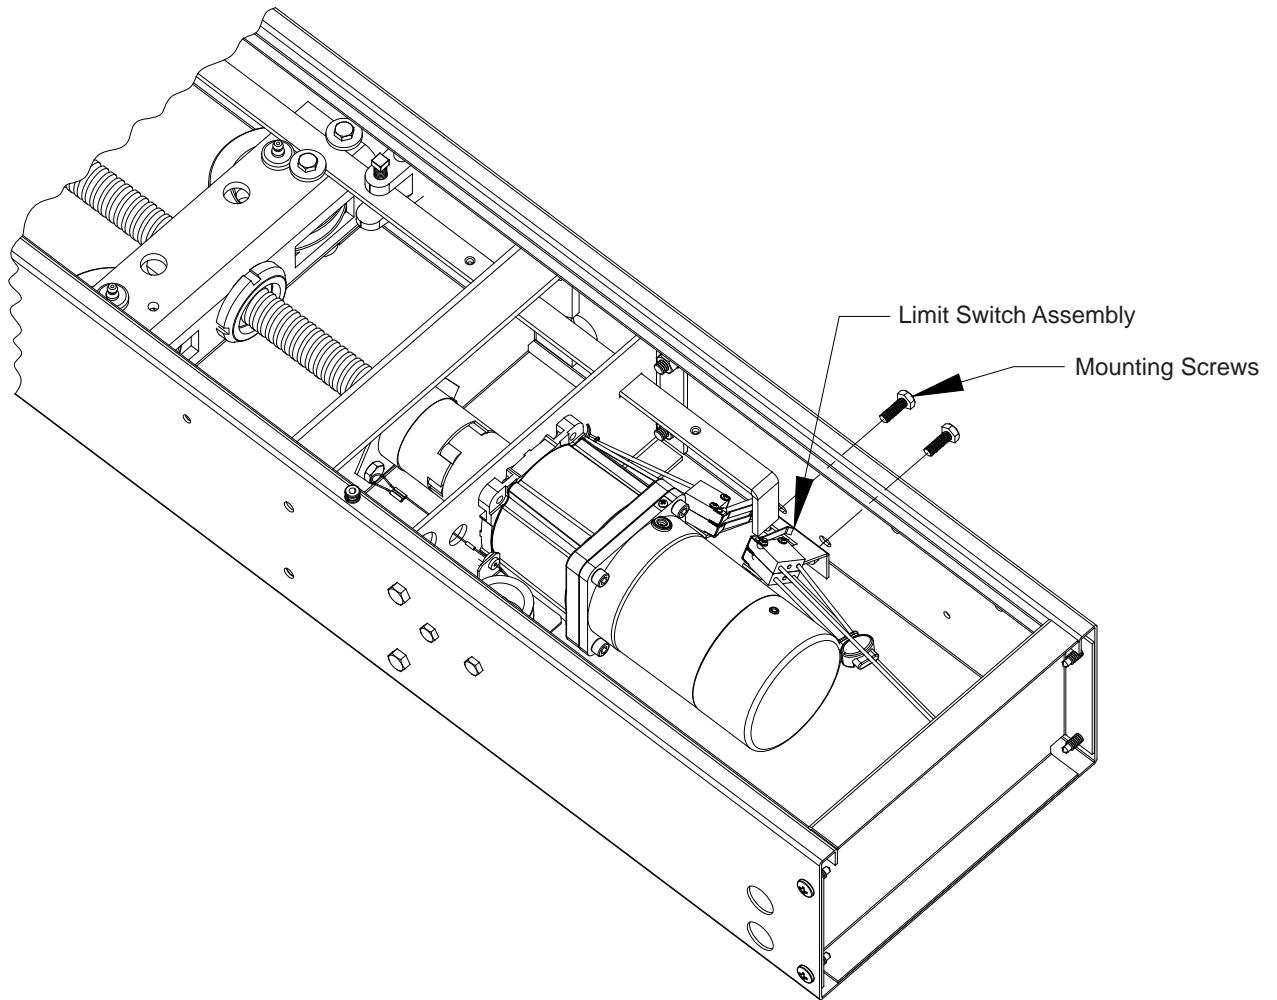

Figure 3
Install new Limit Switch Assembly into BA4000 and fasten in place using (2) Screws [included]. See Figure 3.